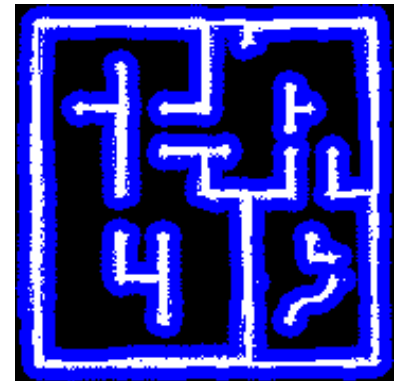

Fig. 10: Resizable grid
- Added the Grid class to Mapper and added a flag to the flags.py file to print it (see Fig. 10) (see [II]).